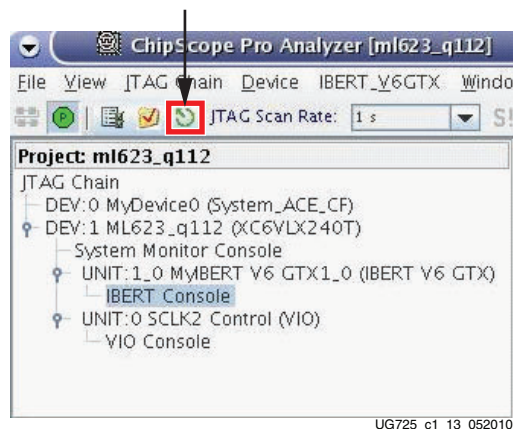

Figure 1-13: Reset All Button
4. At the top of the ChipScope Pro Analyzer window, click the **Reset All** button (Figure 1-13).